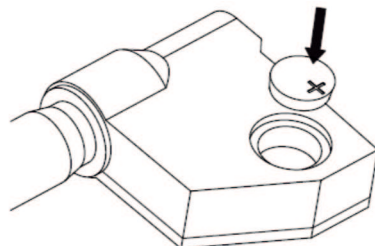

fig. 2
- » Insert the CR2032 battery into the battery compartment, the positive side of battery (+) should face out (fig. 2).